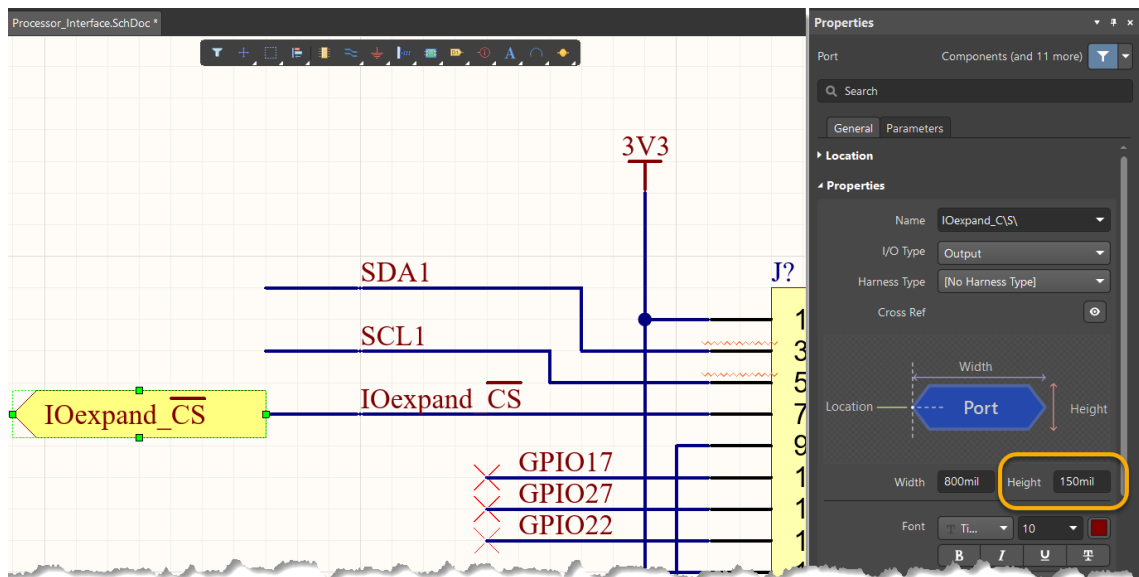

Figure 26. Port Properties
37. The port will require two **left-clicks**. The first left-click defines the left side of the port, and the second left-click defines the right-side of the port and its length. After placement, change the height of the port to 150mil, so that the bar above the text is not obscured by the port. See Figure 26.